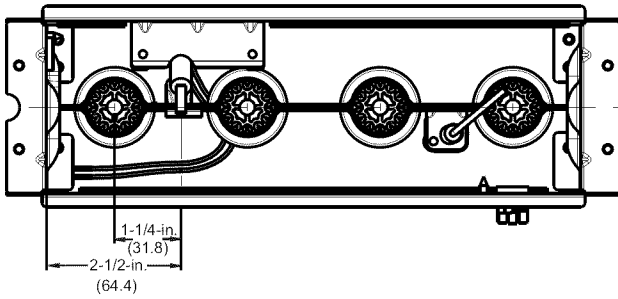

Fig. 22 - Igniter Position - Back View
4. Verify igniter to burner alignment. See Fig. 22 and 23.